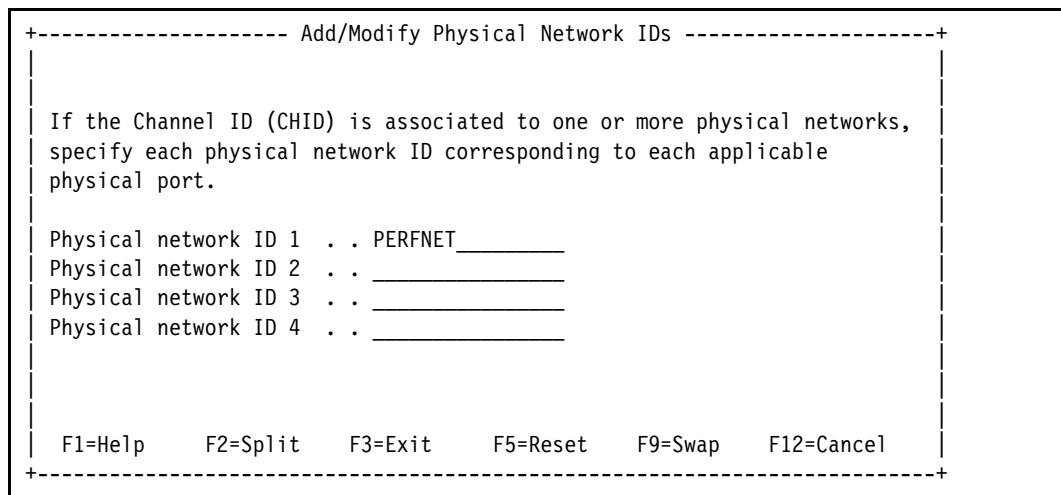

Figure 15-11 Add/Modify Physical Network IDs: Adding network ID, RoCE-2
- Enter the following value in the Add/Modify Physical Network IDs panel (Figure 15-11) and press **Enter**: